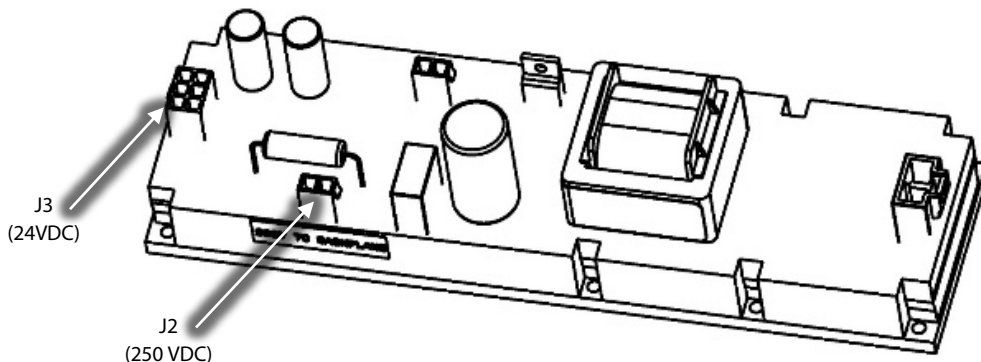
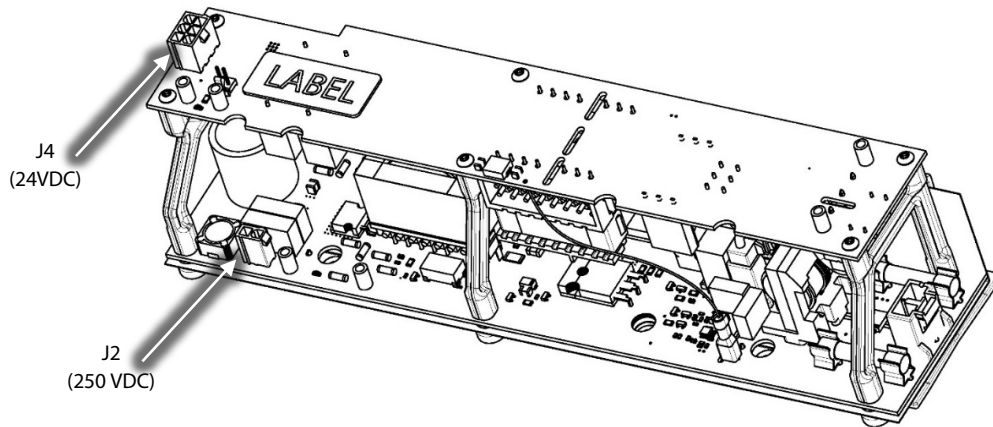

Figure 4 – Potted DC-DC Converter
Figure 5 – Open Frame DC-DC Converter
6. Disconnect the 24 and 250VDC output from the DC-DC. Refer to Figure 4 (Potted DC-DC Converter) or Figure 5 (Open Frame DC-DC Converter) depending on the installed DC-DC Converter.